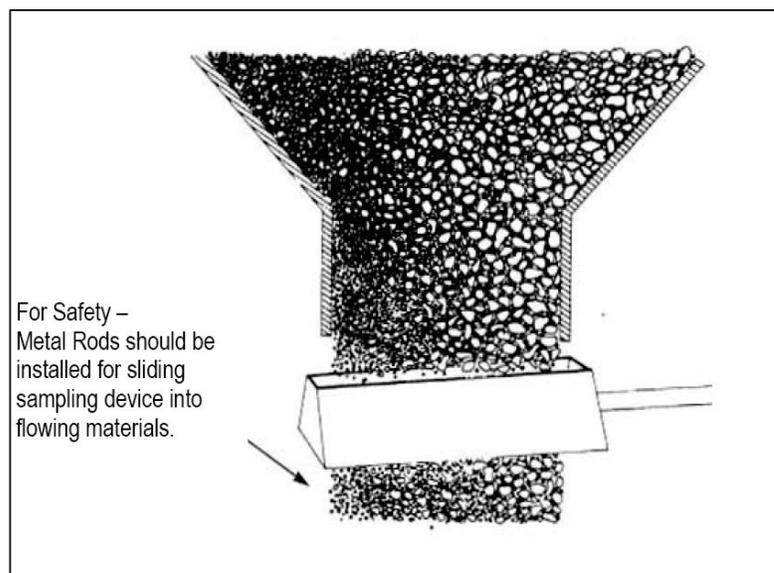

Figure 7-12: Correct Use of the Sampling Device
- 3.1. Properly position and pass the sampling device through the stream of material, so that all the sizes are collected and a representative sample is obtained. Correct use of the sampling device is illustrated in Figure 7-12.